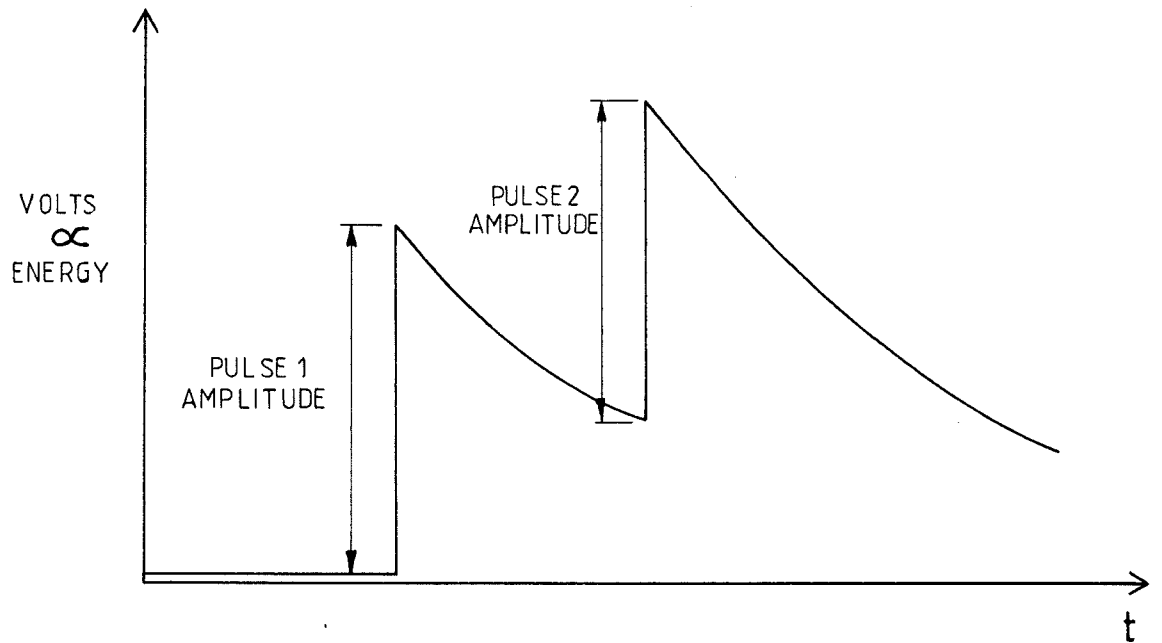

FIG 4.1 C.R.O. DISPLAY OF DOUBLE PULSE LASER OUTPUT
Switch on as detailed in Sections 4.1 and 4.2 and monitor the laser output on an oscilloscope by means of the integrating photodiode energy monitor supplied with the system. Adjust the BALANCE and DELAY 1 controls until a signal similar to that shown in Figure 4.1 is obtained.
- v) Switch on the laser and monitor output on an oscilloscope by means of the integrating photodiode Energy Monitor supplied with the laser. Adjust Pulse 1 balance and delay controls until a signal similar to that shown in Figure 4.1. is obtained, giving optimum overall output and approximately equal energy in both pulses.